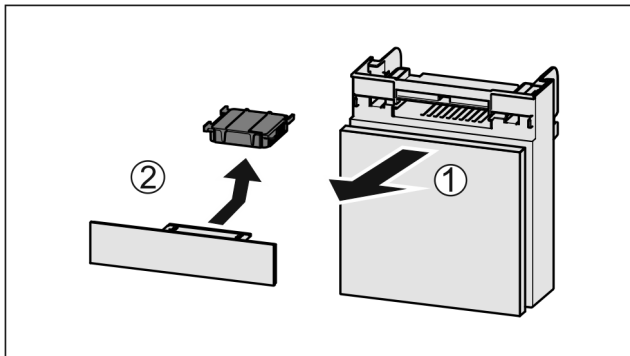

Fig. 190
- ▶ Pull out the compartment Fig. 190 (1).
- ▶ Remove the carbon filter Fig. 190 (2).